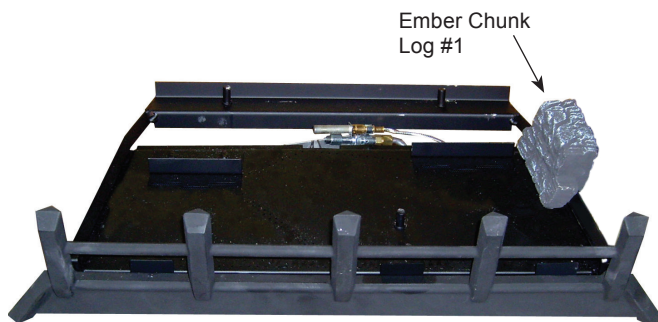

Figure 28. Place Ember Chunk Log #1
1. Place the #1 log (the “chunk”) on the grate bar right side of the burner adjacent to the controls. Figure 28.